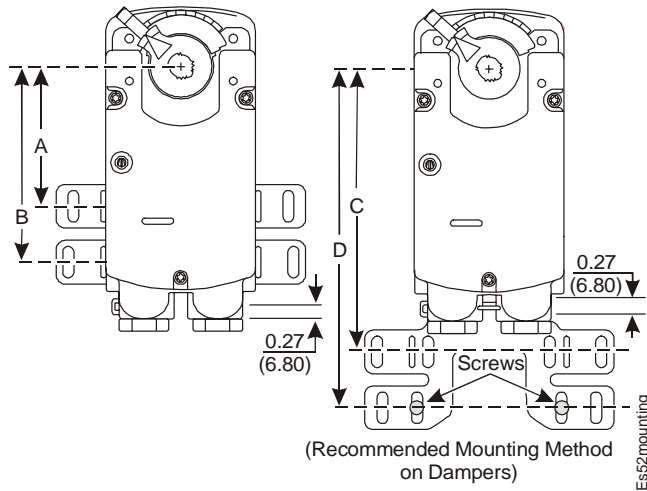

Figure 5: Mounting Positions, in. (mm)
- See the A through D dimensions in Figure 5 and Table 1 to ensure the anti-rotation mounting bracket tab fits midway in the actuator slot.
- Use the anti-rotation mounting bracket as a guide, and drill the holes in the damper frame or duct for the bracket (based on the measurements obtained in Figure 5 and Table 1).